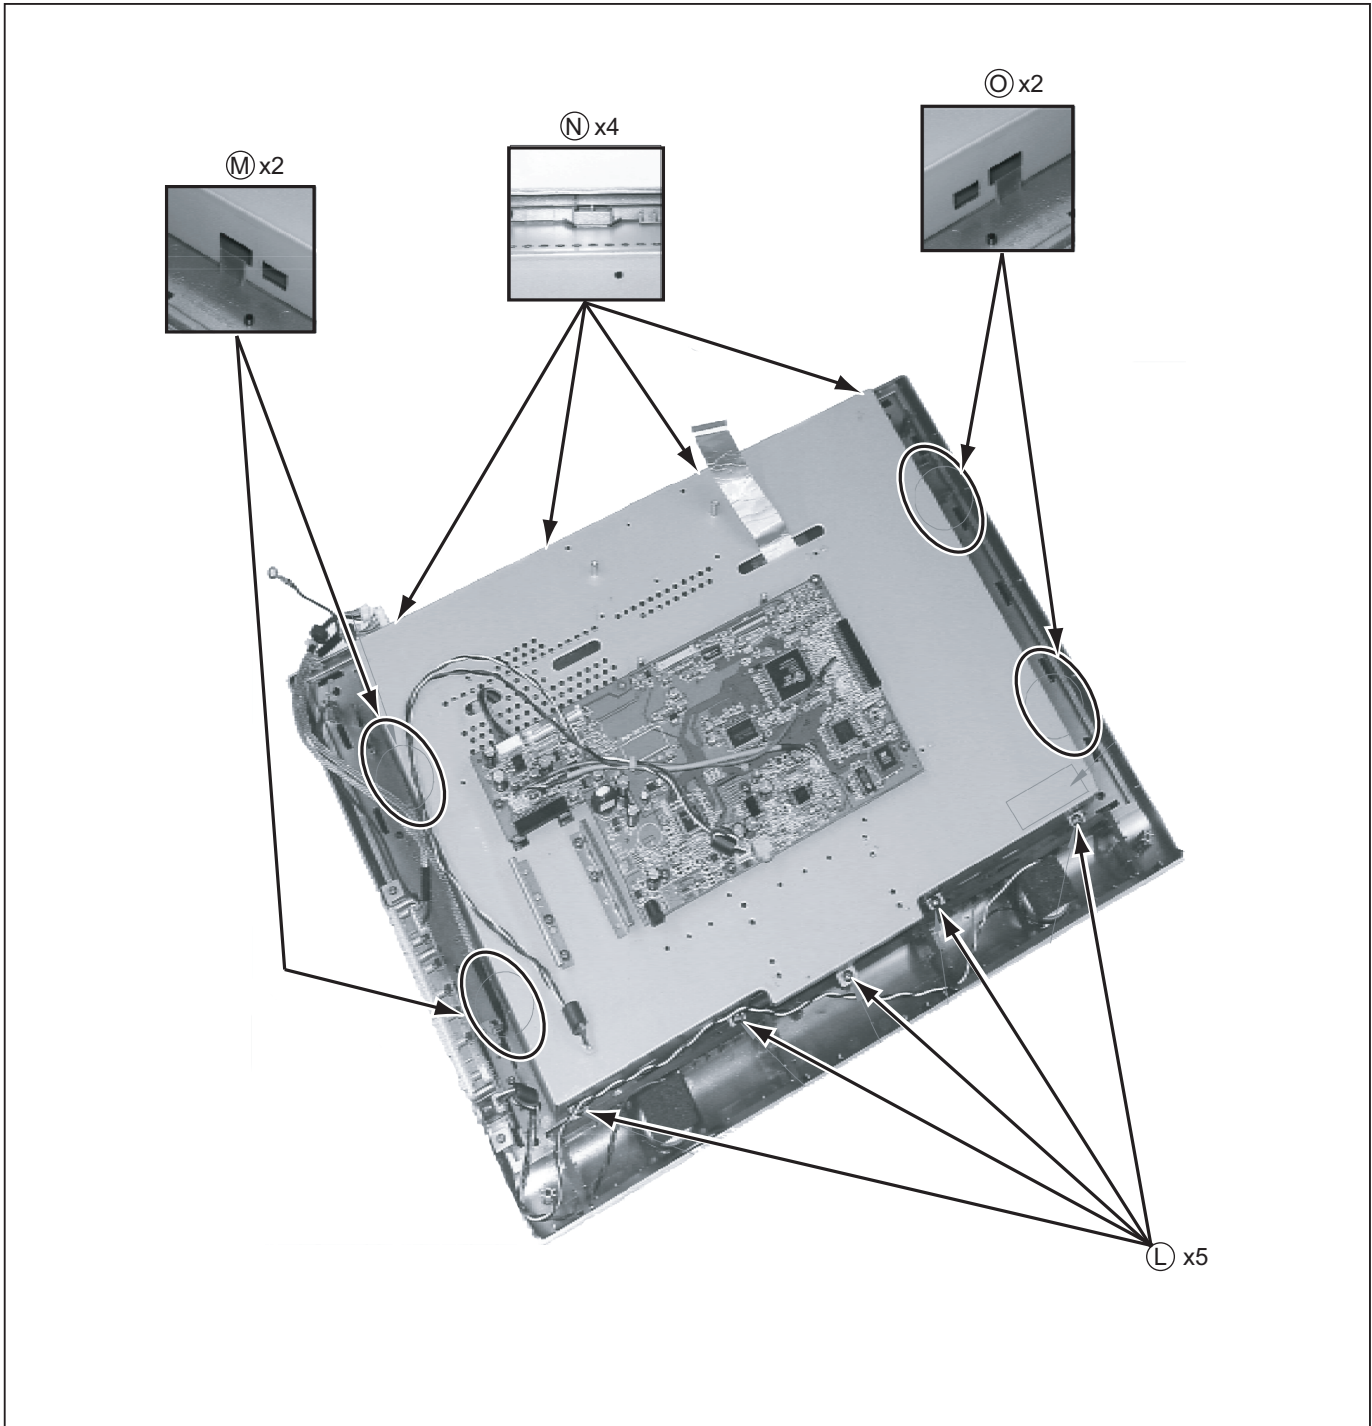

Fig.7
3.1.8 REMOVING THE LCD PANEL UNIT (Fig.7, 8)
- (1) Remove the 5 screws **[L]**. (Fig.7)
- (2) Remove the 2 claws **[M]**, 4 claws **[N]** and 2 claws **[O]** and remove the LCD PANEL UNIT and LCD BRACKET. (Fig.7)